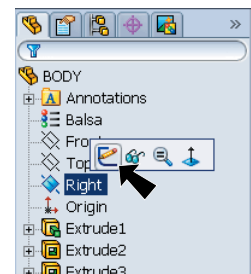

Fig. 8
Step 1. Click **Right** (plane) in the Feature Manager and click **Sketch**  from the Content toolbar, **Fig. 8**.